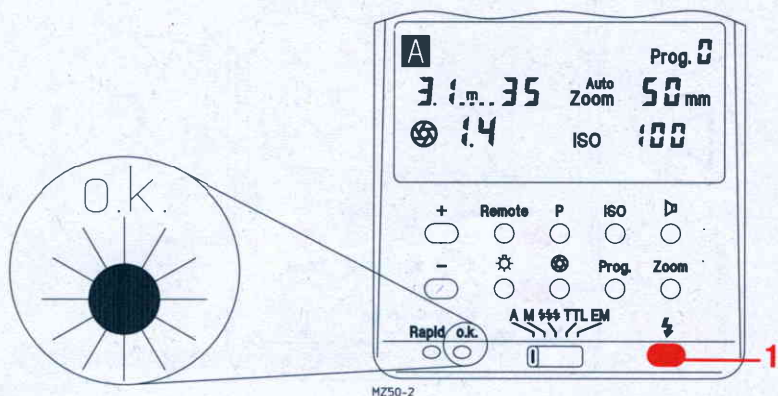

Fig. 22: Exposure o.k.
1 The test flash is triggered with the manual firing button (35) on the control unit (fig. 22). If the auto-check exposure o.k. (26) remains dark after the test flash, then adjust the next larger aperture or diminish the distance to the reflection surface or subject, and then repeat the test flash.